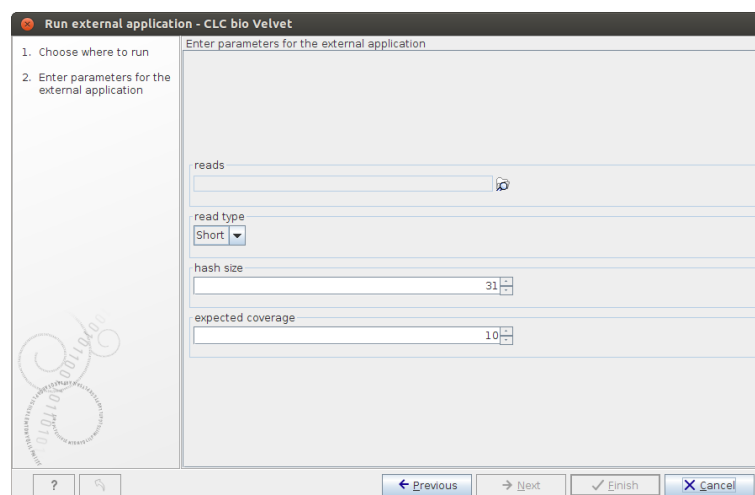

Figure 12.10: Configuring Velvet parameters from a Workbench.
- Select  the reads to assemble and configure the Velvet parameters, as shown in figure 12.10.